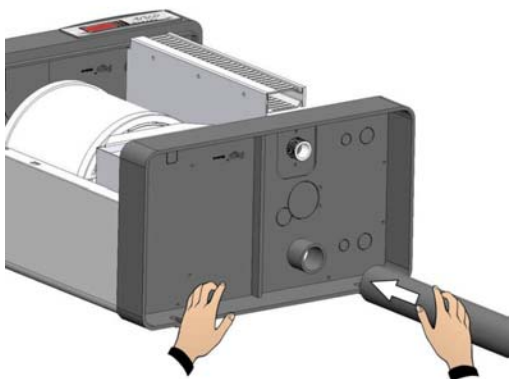

Fig. 9
6. Connect the water drainage discharge pipe to the manifold (40 mm diameter) and fix it in place with the supplied clip (fig. 9 e 10).